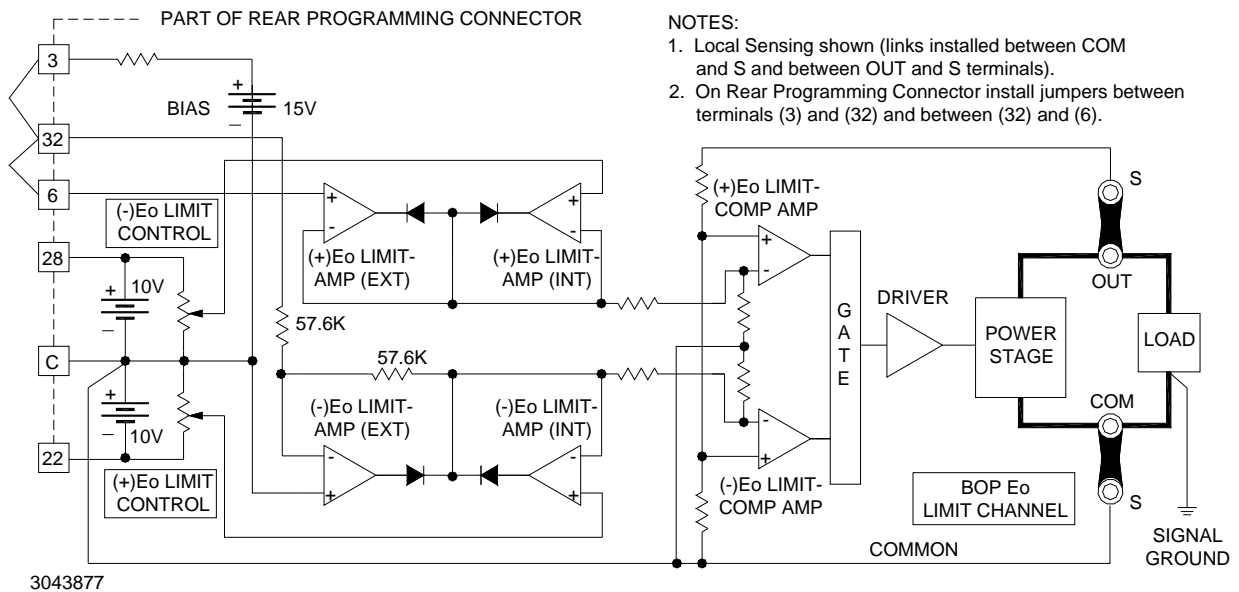

FIGURE 3-4. BOP (\pm) VOLTAGE LIMITING CIRCUIT (LOCAL CONTROL, LOCAL SENSING)
- (\pm) E_O Limit Circuits: see Figure 3-4 and PAR. 3.3.4 for local control.
Figure 3-4 shows the Voltage Limiting circuit configured for local sensing and local (front panel) control. The circuit functions in a manner similar to the I_O Limit circuit described previously (refer to PAR. 3.3.2), except that the voltage limit feedback is derived by means of a voltage divider across the BOP output.